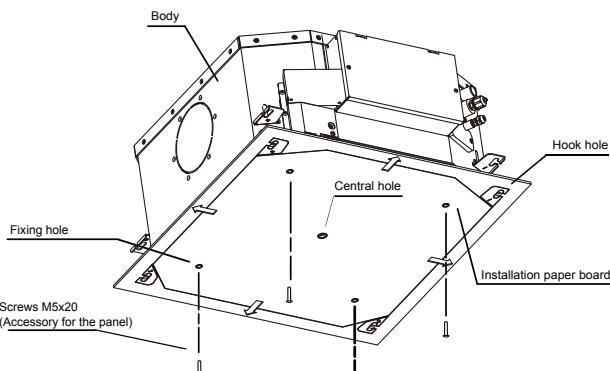

Figure 3.8
- Once you have lifted and mounted the unit, use M5x20 screws (included with the installation board) to secure the installation board (accessory 2) on the unit body. Make sure you verify the size and positions of the opening in the ceiling and maintenance access before you do so. See Figure 3.8.